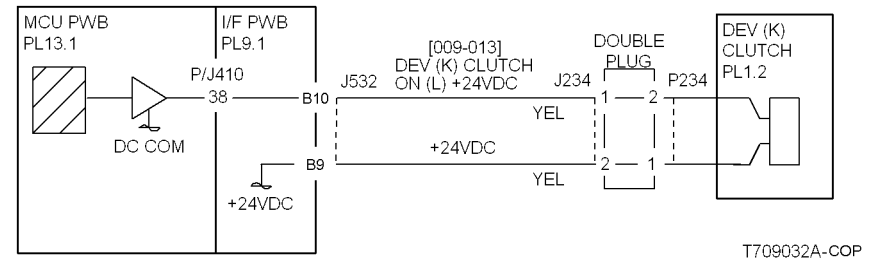

Figure 2 Dev Clutch K Circuit Diagram
Go to **Figure 2**. Check the circuit of the Developer Clutch (K) (**PL 1.2**).